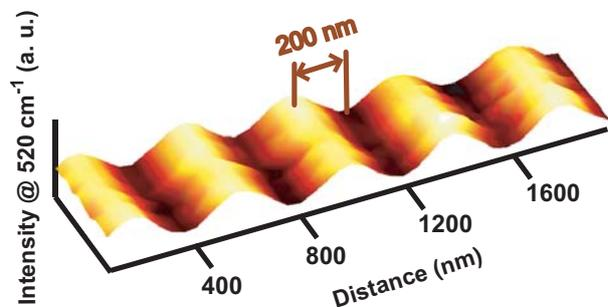
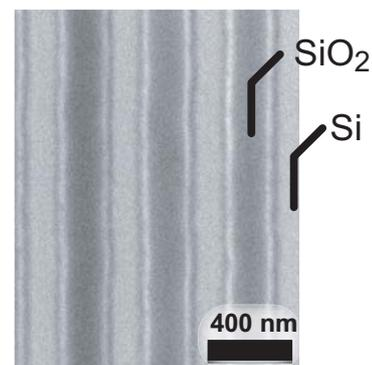

Fig. 2 Raman image of Si/SiO₂ line&space
Fig. 3 Scanning Electron Microscope (SEM) image
- **Raman detector** High-end CCD detectors are selectable depending on the required wavelength range (see p.11, Fig.2 Quantum Efficiency (QE) curves).
2D intensity mapping at Si Raman peak (520 cm^{-1}) of 200 nm Si/SiO₂ line&space sample is depicted in Fig. 2. The corresponding Scanning Electron Microscope (SEM) image is shown in Fig. 3.